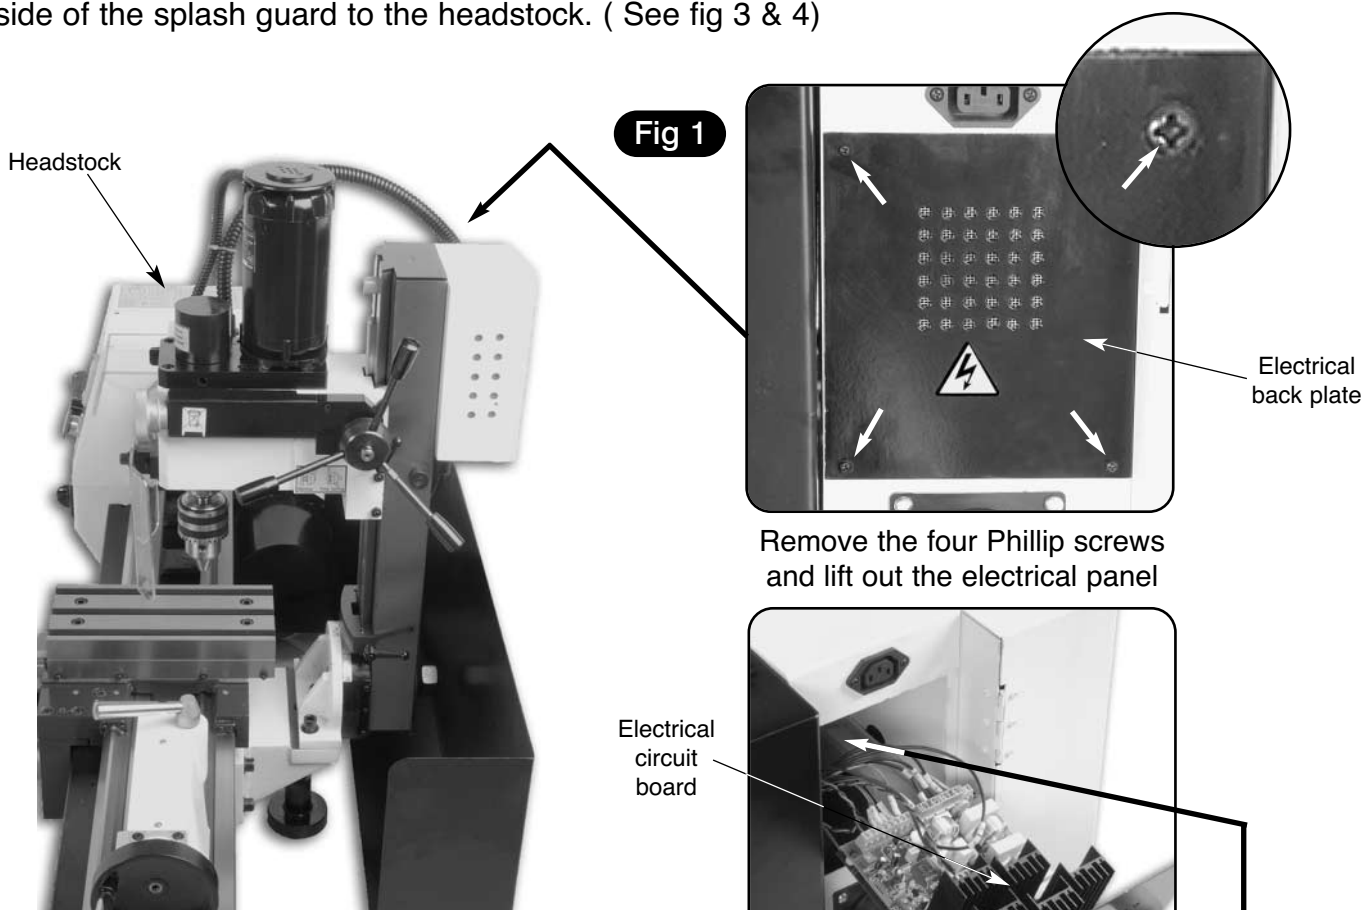

Fig 1
1) Remove the four Phillip screws and pull out the electrical back plate to the rear of the lathe and lay the circuit board to one side. (See fig 1 & 2 )